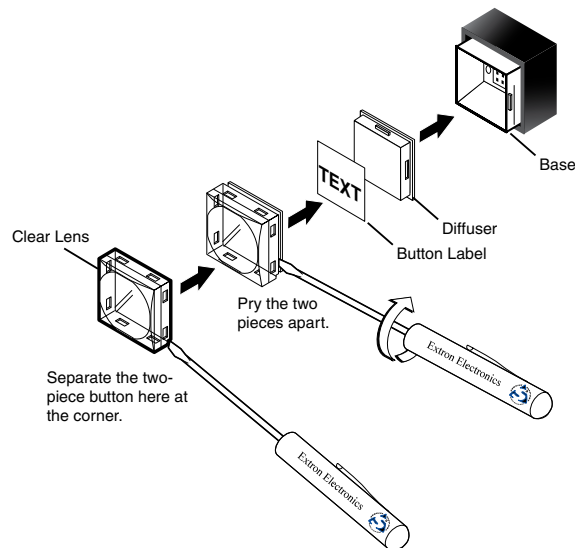

Figure 112. Illuminated Button Label Replacement
1. Remove the button from the matrix switcher; use a small, flat bladed screwdriver such as an Extron Tweaker to gently pry a button out from the front panel (see figure 112).